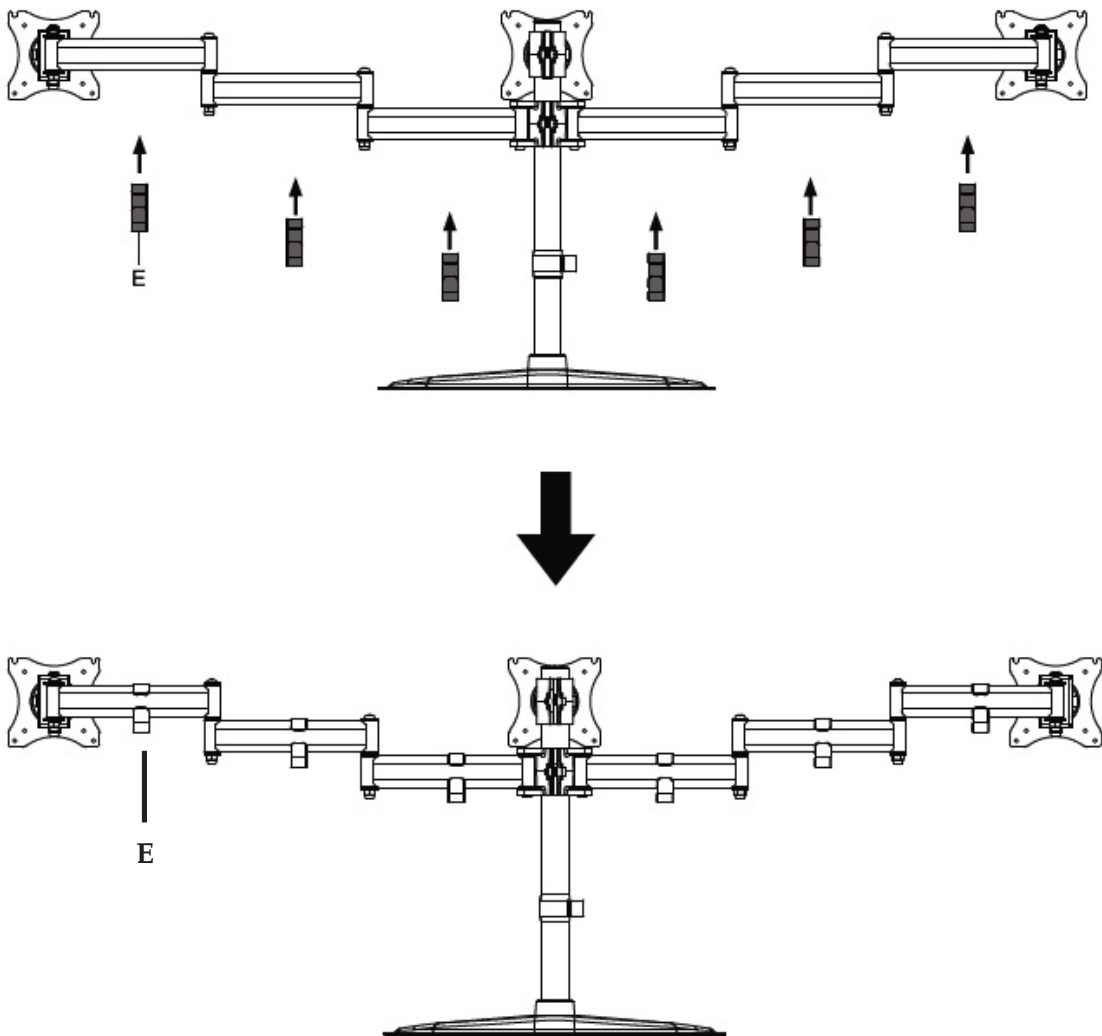

Figure 2B
3. Attach the **Cable Management Clip (E)** to the arm assembly at the positions shown in **Figure 2B**.